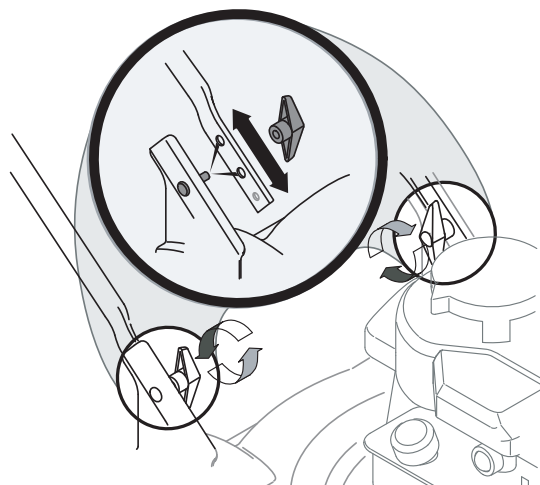

Figure 2
- If satisfied with height of handle, tighten wing nuts at the ends of the lower handle shown in Figure 2. The handle may be adjusted by removing the wing nuts shown in Figure 2 and placing the weld pin on the handle bracket in the upper or lower hole in the lower handle.